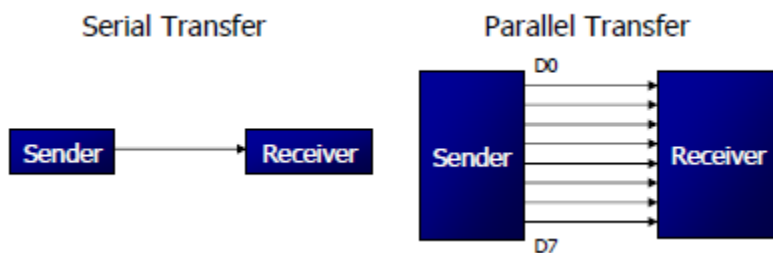

Fig4.6.1: Serial and Parallel data transfer
- It is shown diagrammatically in fig 4.6.1